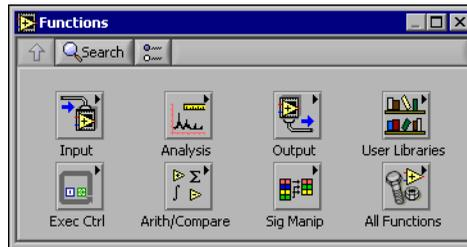

Figure 1-6. Functions Palette
3. If the **Functions** palette, shown in Figure 1-6, is not visible, select **Window»Show Functions Palette** to display it.